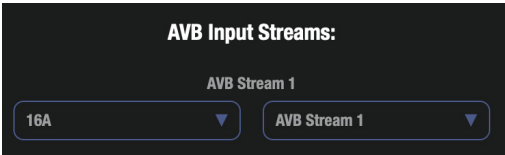

Figure 9-2: Connecting an input stream.
- 4 Go to the Device tab. In the *AVB Input Streams* section choose the 848 as a source device for one of the streams and choose *Media Clock* for its *Source Stream* (Figure 9-2 on page 73), if compatible. If not, choose any available input stream from the menu.